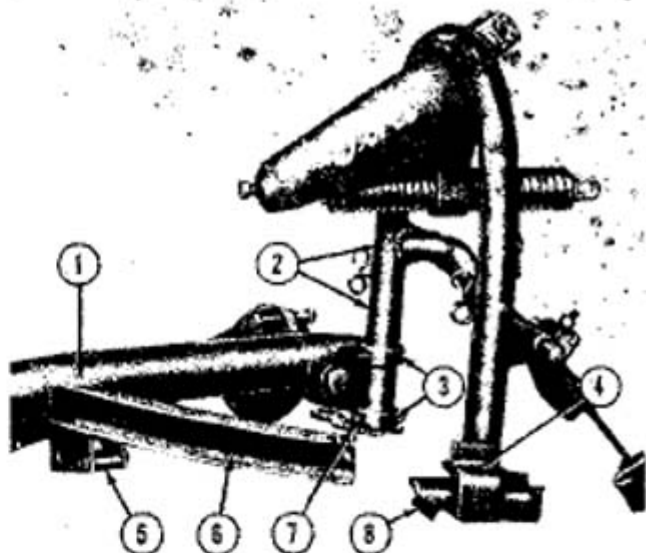

Figure 16
3. Position the lower frame (1), Figure 16, as shown; and insert the left side of the upper frame (2) through the yoke (3).
4. Thread the bellcrank (7) as far as possible into the left leg of the upper frame (2), so it is free to pivot in the approximate position shown.
7. Engage the lower edge of the breakout guide (5), Figure 16, under the welded plate (4) on the upper frame and position the frames as shown in Figure 17.
**NOTE:** Do not attempt to secure the breakout latch (8) on the roller (5), Figure 16, until the cutter bar is attached.
**NOTE:** At this point, the cutter bar safety breakout latch (8), Figure 16, should be engaged on the roller (5). To do this, check the roller to be sure it turns freely, start the tractor engine, and lower the cutter bar into operation position. Then, back the tractor up until the breakout assembly is engaged and turn off the tractor engine. If the breakout spring is too tight, consult the breakout spring adjustment on page 12. When the breakout is latched, the retaining wedge must be repositioned. Loosen the cap screw (10), Figure 17, and slide the retaining wedge (9) as far to the right as possible (toward the P.T.O. drive in Figure 17). Tighten cap screw to secure wedge.